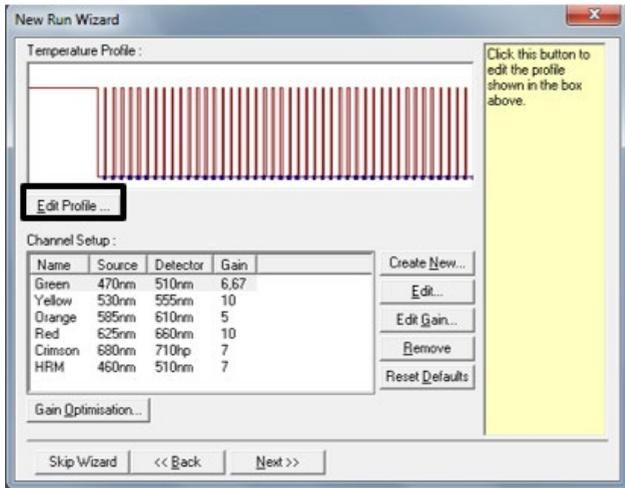

Figure 12. Edit Profile.
17. Click **Edit Profile** (Figure 12).